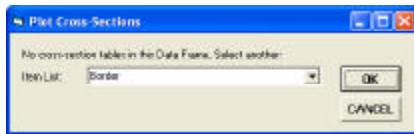

Figure 3
If no Cross-Section Data Tables are found in the current active data frame, the command will prompt the user, see Figure 3, to select the data frame within which the desired Cross-Section Data Table(s) reside.
6. Select the name of the appropriate data frame from the choice list, shown in Figure 3, click at the: